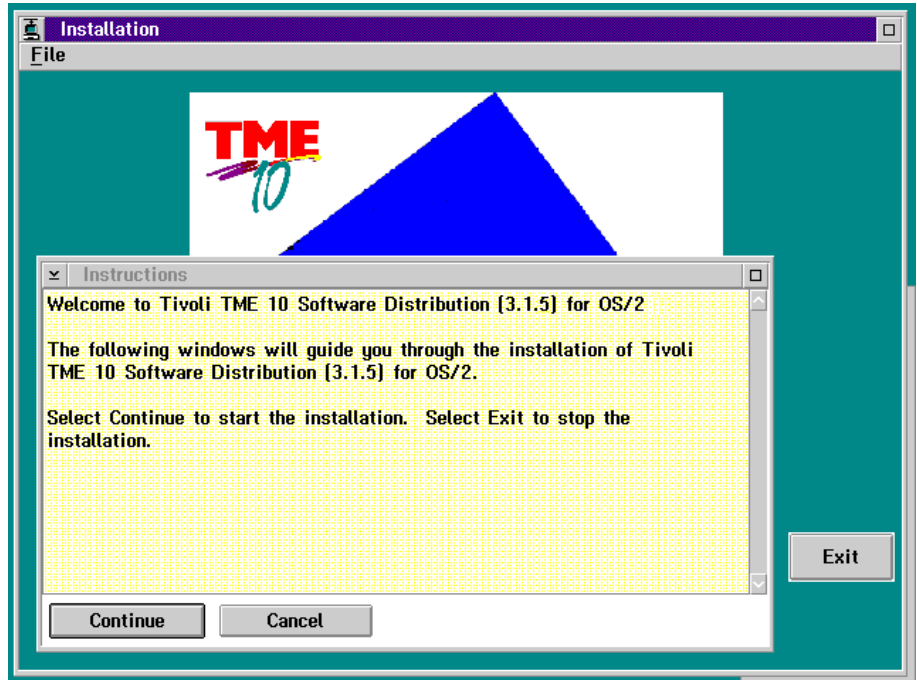

Figure 8. TME 10 Software Distribution welcome window
- 1 Insert the TME 10 Software Distribution CD-ROM (number LK3T-5087-00) and, from the SD4OS2\IMAGES directory, type `install`. The Welcome window, shown in Figure 8 on page 54, is displayed.